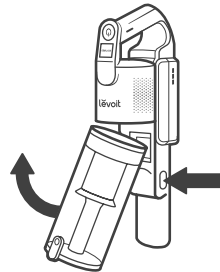

Figure 3.3
1. Press the Dust Bin Release Button to remove the dust bin. **[Figure 3.3]**